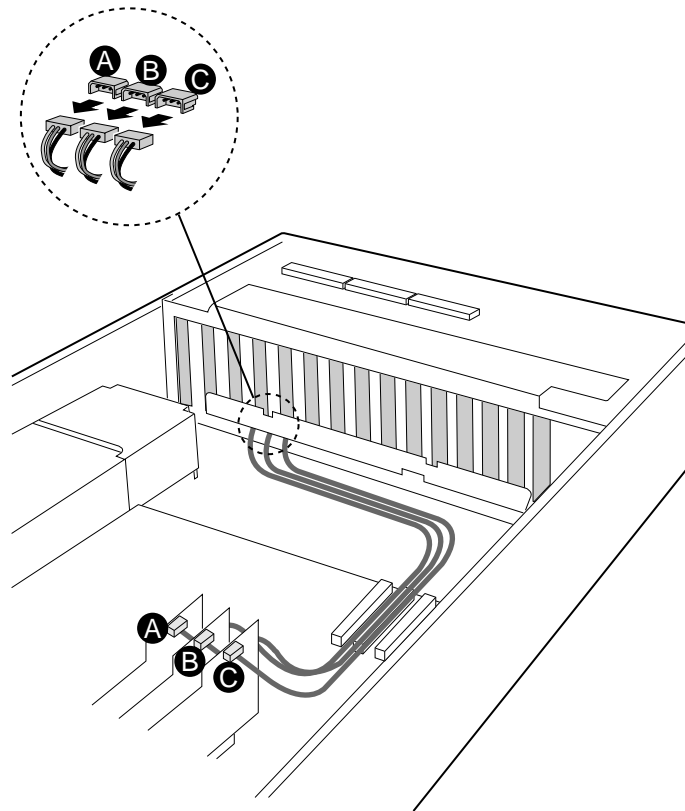

Figure 34. Removing the I²C Cables from the Backplane Board
- D. Make a note of the header positions of the three I²C Cable connectors. After installation of the SATA Cables has been completed, you will re-connect these connectors to the same headers. Carefully remove the I²C Cable connector labeled JP4 from its I²C Cable header on the backplane board. Carefully remove the I²C Cable connector labeled SL2J6 from its I²C Cable header in the HBA Card set. See Figure 34.
- E. Carefully remove the I²C Cable connector labeled JP6 from its I²C Cable header on the backplane board. Carefully remove the I²C Cable connector labeled SL3J6 from its I²C Cable header in the HBA Card set. See Figure 34.
- F. Carefully remove the I²C Cable connector labeled JP7 from its I²C Cable header on the backplane board. Carefully remove the I²C Cable connector labeled SL4J6 from its I²C Cable header in the HBA Card set. See Figure 34. Set the I²C Cable connectors on a static-free surface.